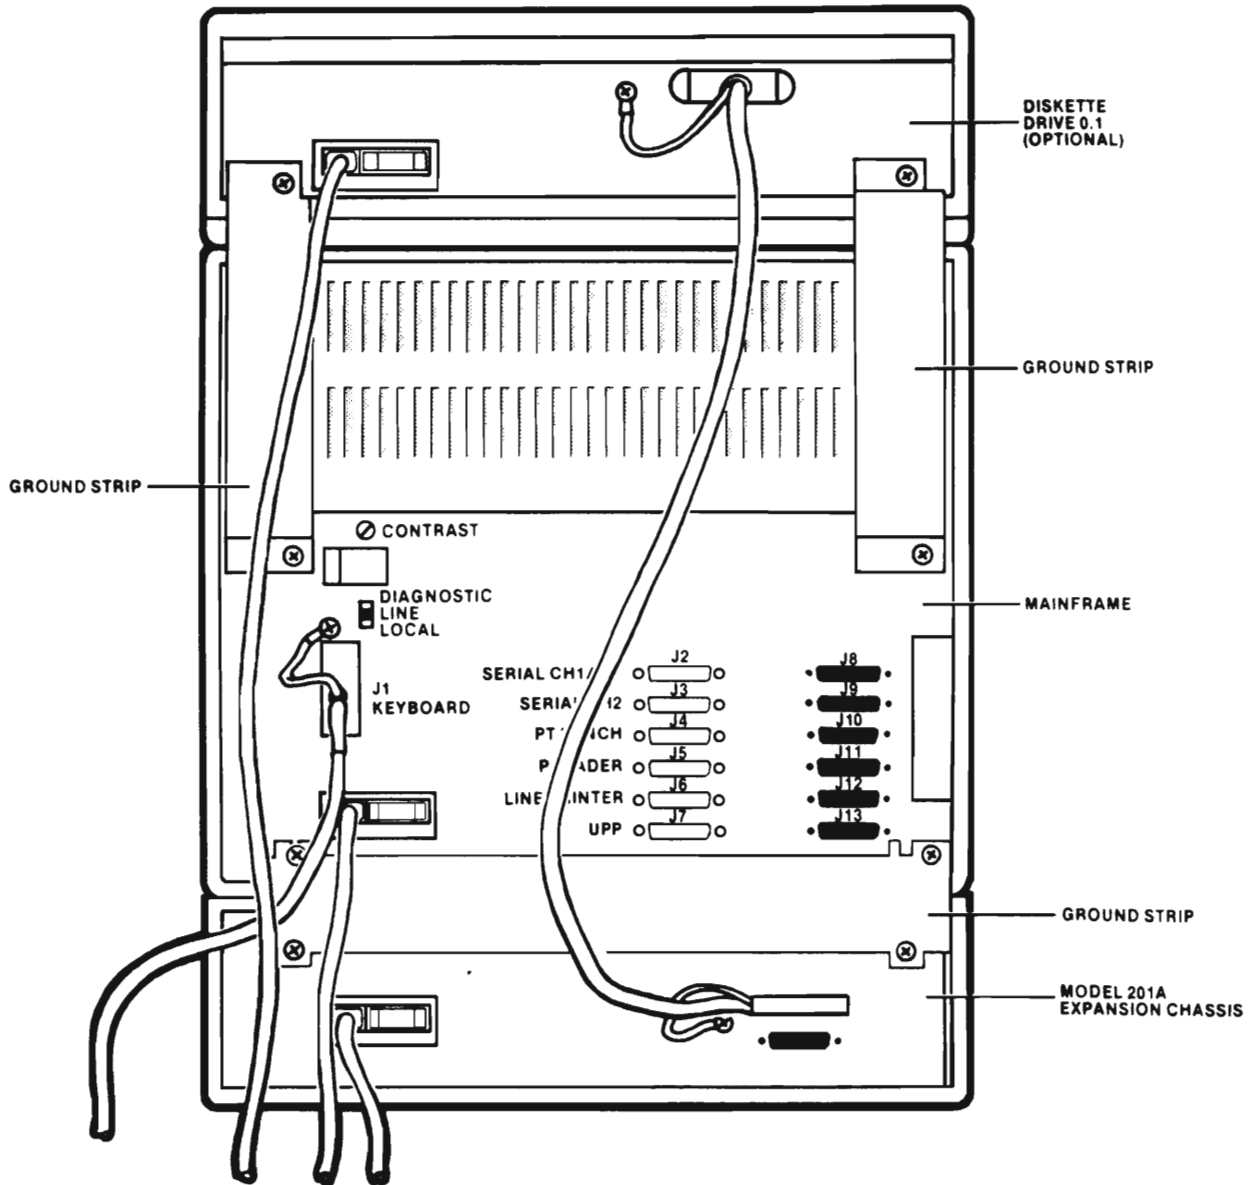

Figure 2-7. Series II/III Mainframe and Expansion Chassis Rear View
- b. Disconnect the keyboard cable and all peripheral device cables attached to the mainframe rear panel connectors (see Figure 2-7).
- m. Gently lower the mainframe into place on top of the expansion chassis. Using existing hardware, attach ground strips between rear panels of the mainframe and expansion chassis (see Figure 2-7).